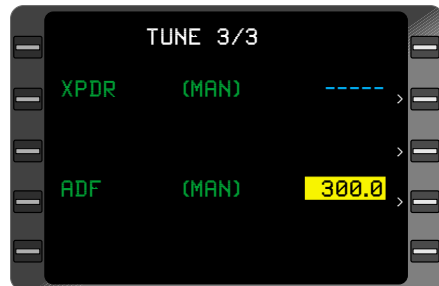

Figure 3-153
- Code or Frequency - INSERT and verify new value.(Figure 3-153)